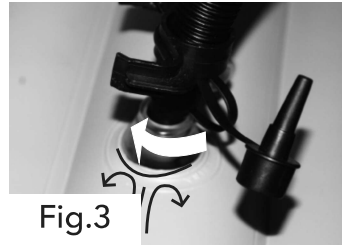

Fig.3
3. When the boat is fully inflated, gently twist the adapter sleeve to right while backing pump out of the valve. (Fig.3)